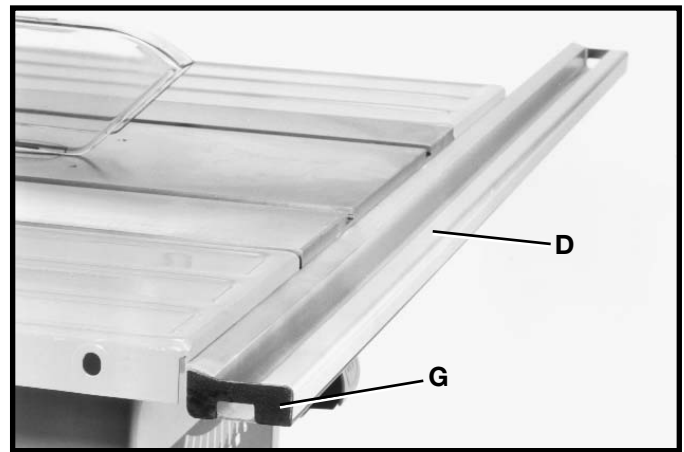

Fig. 8
4. Insert end cap (G) Fig. 8, into each end of the guide rail (D), as shown. Using a block of wood and hammer, gently tap end caps until they are completely seated into each end of the guide rail. **NOTE:** To avoid damage to the aluminum fence rail, do not use hammer directly against end caps.